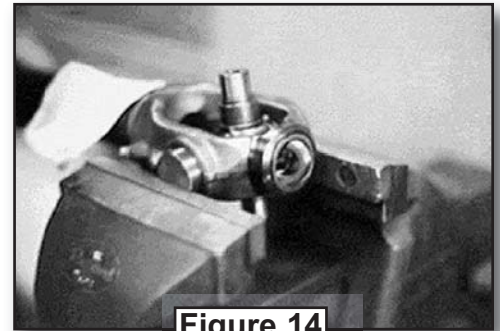

Figure 14
8. Put the shaft yoke into the vise so the bearing cups are square with the jaws of the vise. Make sure the trunnion is aligned with the bearing cups. Tighten the vise until both bearing cups are flush with the yoke (see *Figure 14*).